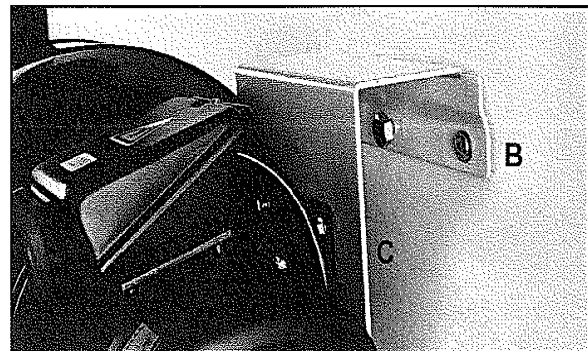

FIG. 5
Once the mounting bracket (B) is installed, the dust collector can be hung on the bracket. The base of the Motor Plate (C, #11) will fit into the recess on the bracket to secure the collector in place. Figure 5 & 6.